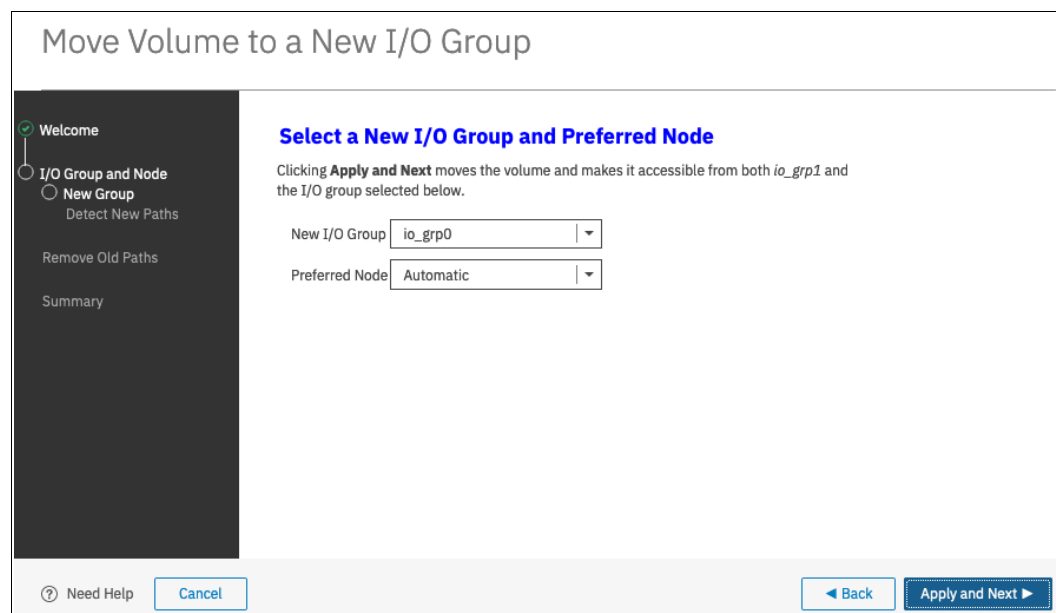

Figure 6-69 Modify I/O Group for a mapped volume wizard: I/O group selection window
1. Verify that all hosts that use the volume are zoned to the target I/O group, and click **Next** to proceed to the new I/O group selection window, as shown in Figure 6-69.